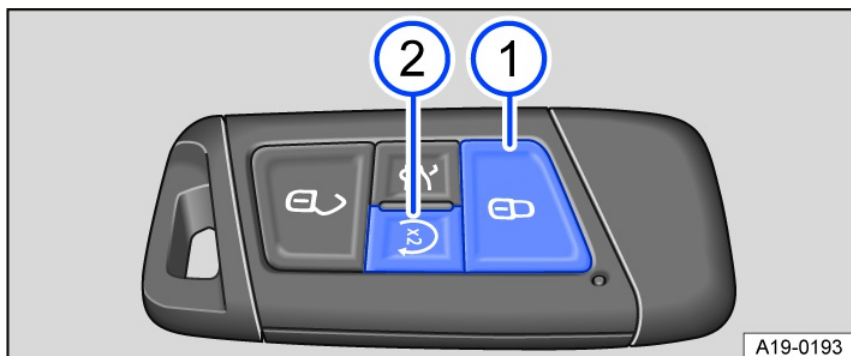

Fig. 88 Vehicle key with remote start relay function.
1. Press the button  **fig. 88 ①** once. All turn signals will flash.
2. Press the button  **fig. 88 ②** twice in a row. All turn signals will flash. During remote start, the parking light turns on.
1. Press the button  **fig. 88 ②** in the vehicle key to switch off the engine.